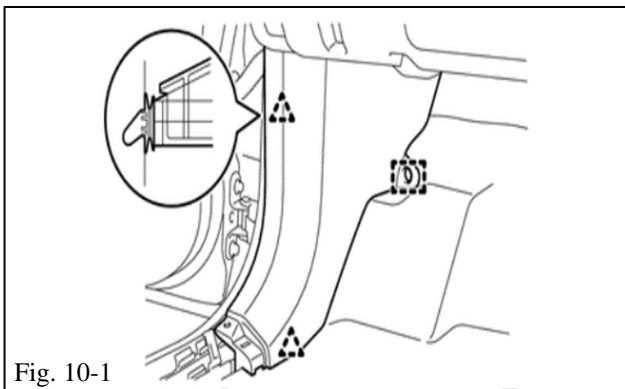

Fig. 10-1
- (1) All doors including tailgate are unlocked.
- (a) Reinstall the RH Cowl Side Trim with the clip (Fig. 10-1).